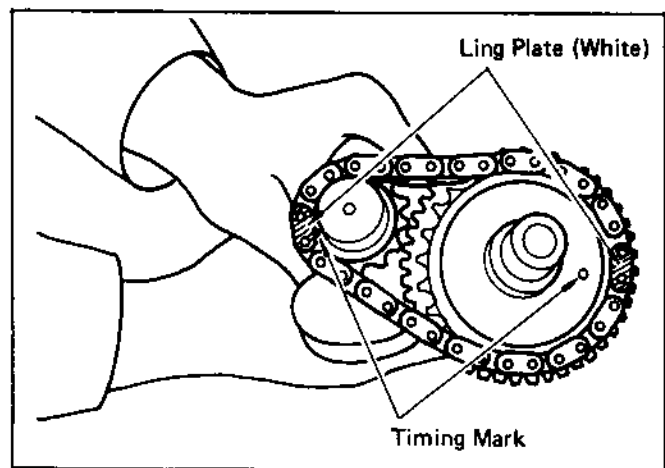

Fig. 27 (EY15B)
- 1) Set the chain in the sprockets of the crankshaft and the camshaft, as shown in Fig. 27.
In the EY15B, set the white link plate at the sprocket's timing mark. (See Fig. 27.)